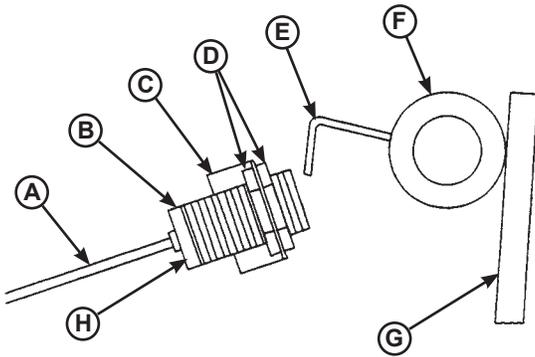

Figure 31
The ARTD uses a proximity switch (B) located under the platform and a piece of angled steel called the target (E) that is attached to the lip hinge tube (F). See Figure 31.